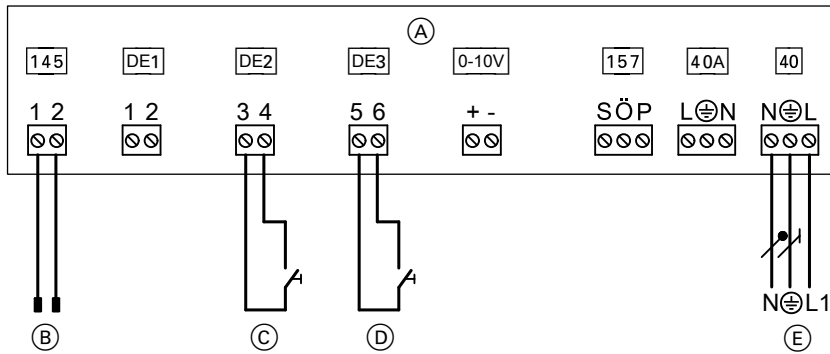

Fig. 55
- To EA1 extension as shown in Fig. 55